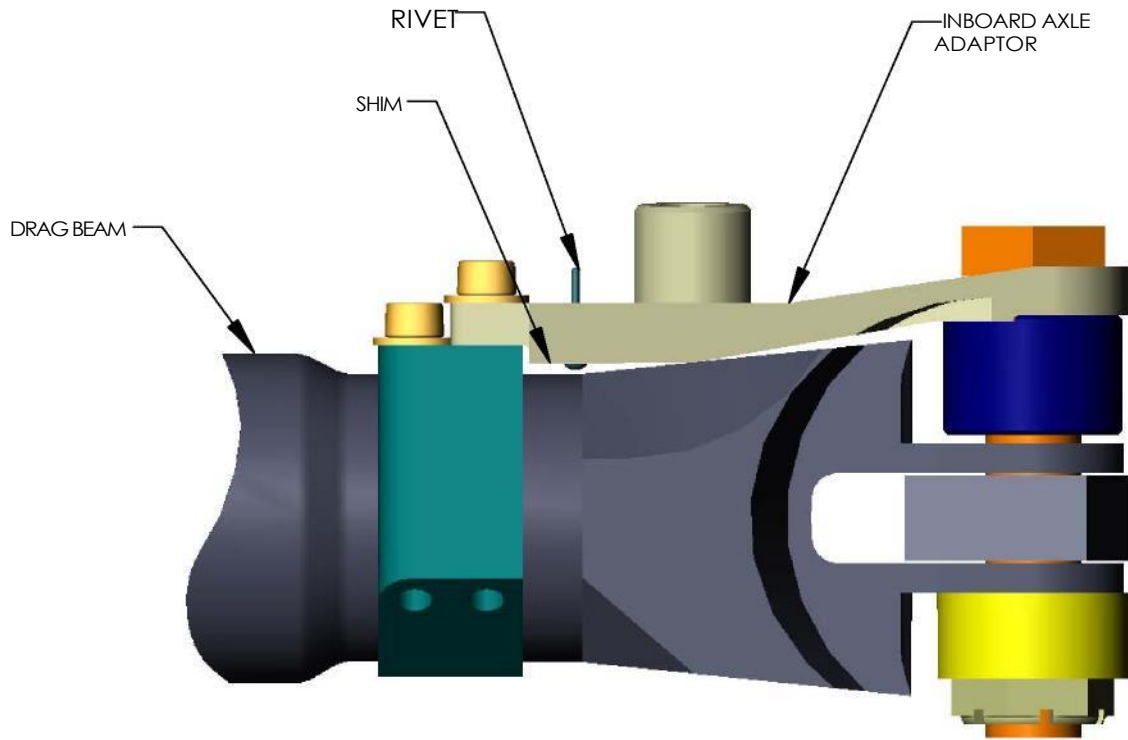

FIGURE 2
- m. Using feeler gage, measure gap between axle adaptor and drag beam (Figure 2, page 4 Detail B). MAXIMUM GAP ALLOWED 0.011 INCH.